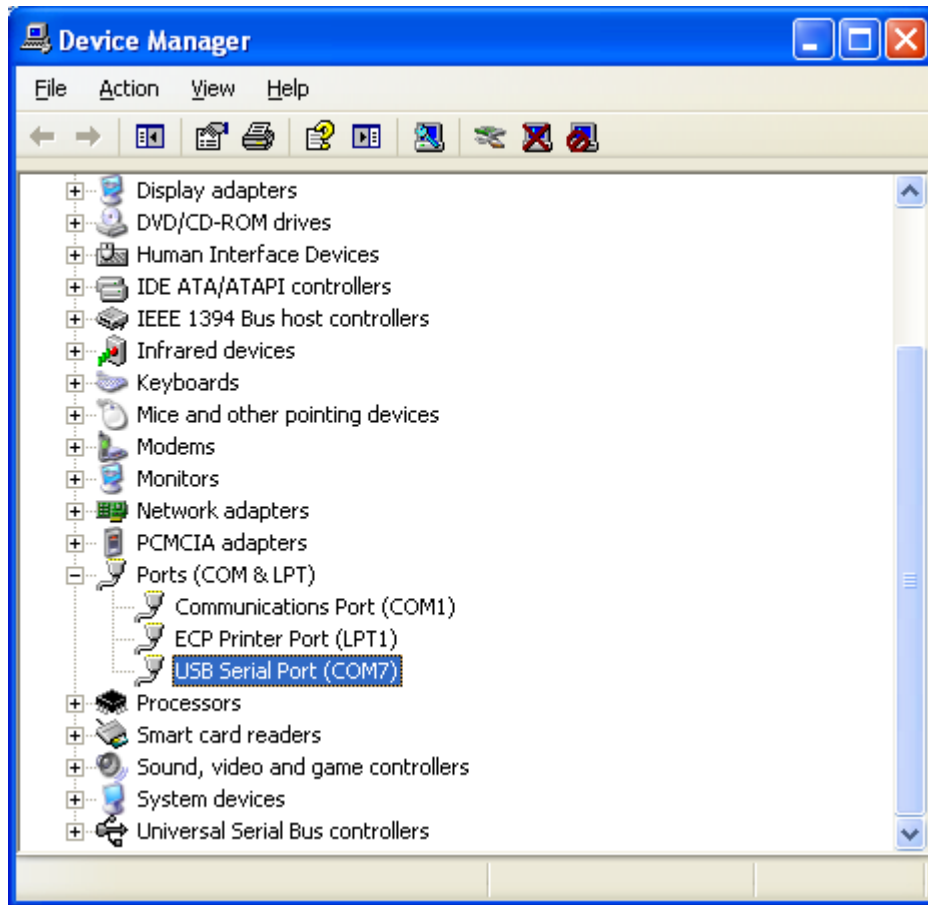

Figure 2: Windows XP Device Manager
- Under Windows, it should appear as a USB Serial Port (COMx) in the computers device manager, under Ports, where x can be any number. In Figure 2 below, it is located as COM7. The corresponding port in Cygwin is /dev/ttyS6.
1. Prepare your computer and the expansion board as described in paragraph 3.1. Remember which COM port the Expansion Board resides on. (COM7 in this case, as shown by Figure 2)